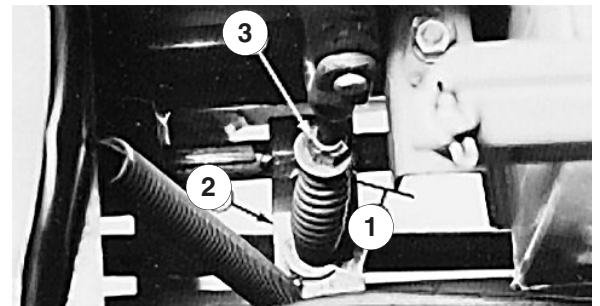

Figure 39
4. To adjust, hold the head of the adjusting screw with a wrench (under the power take-off actuating arm) and turn the locknut (Fig. 39).